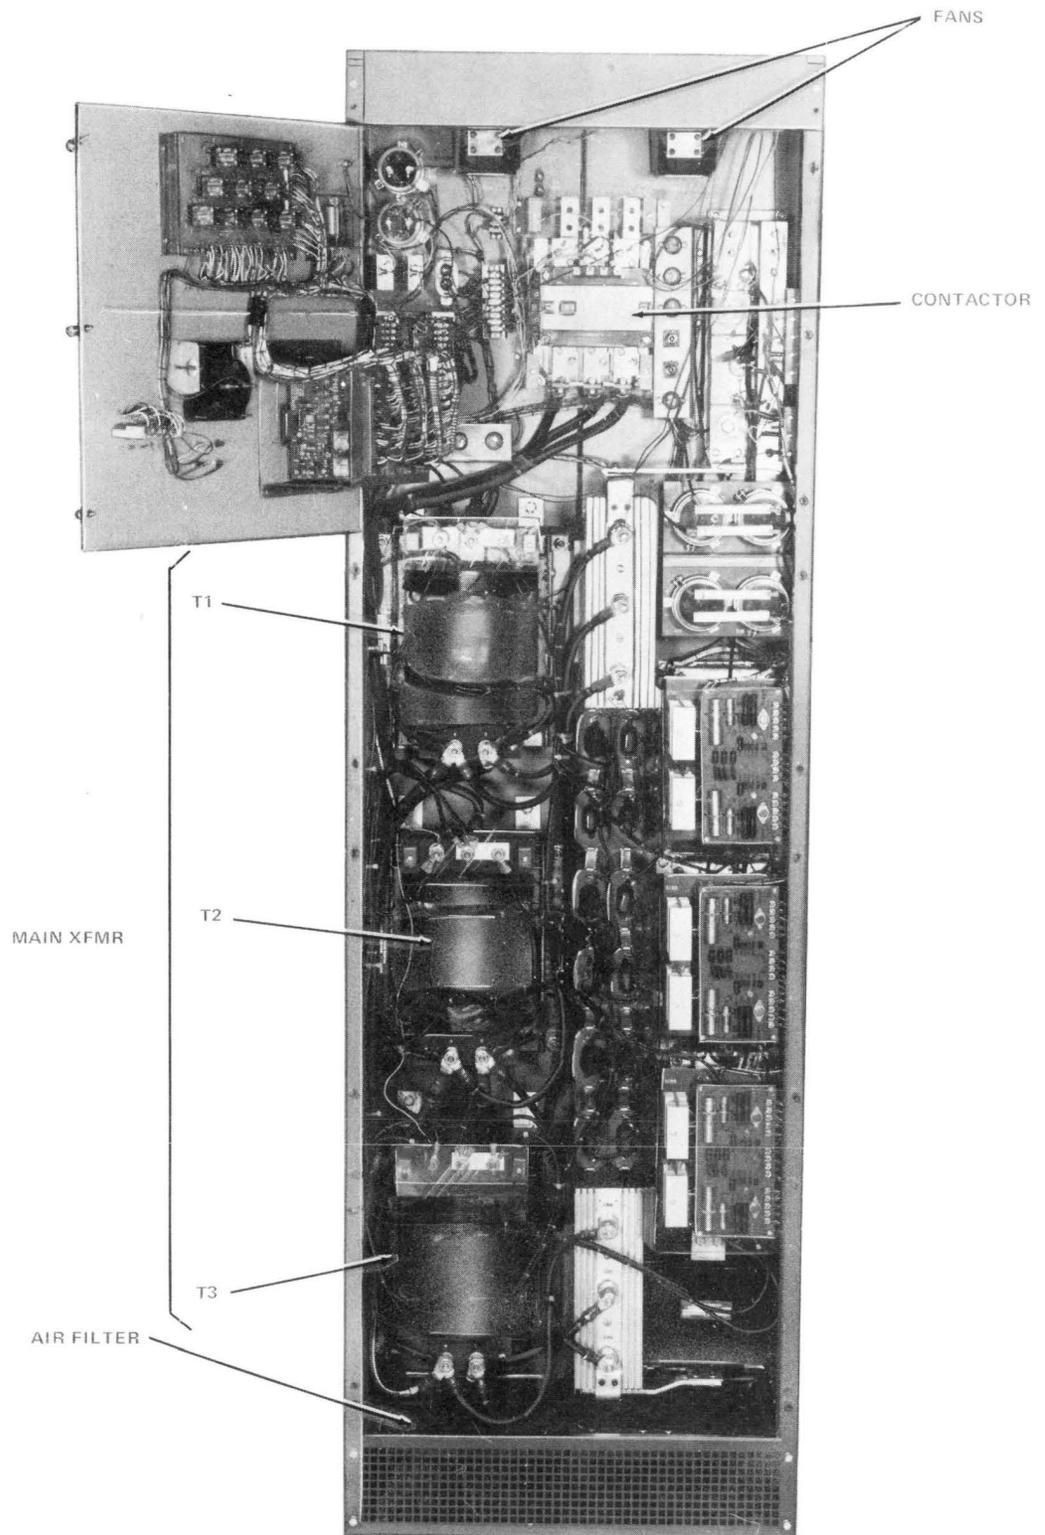
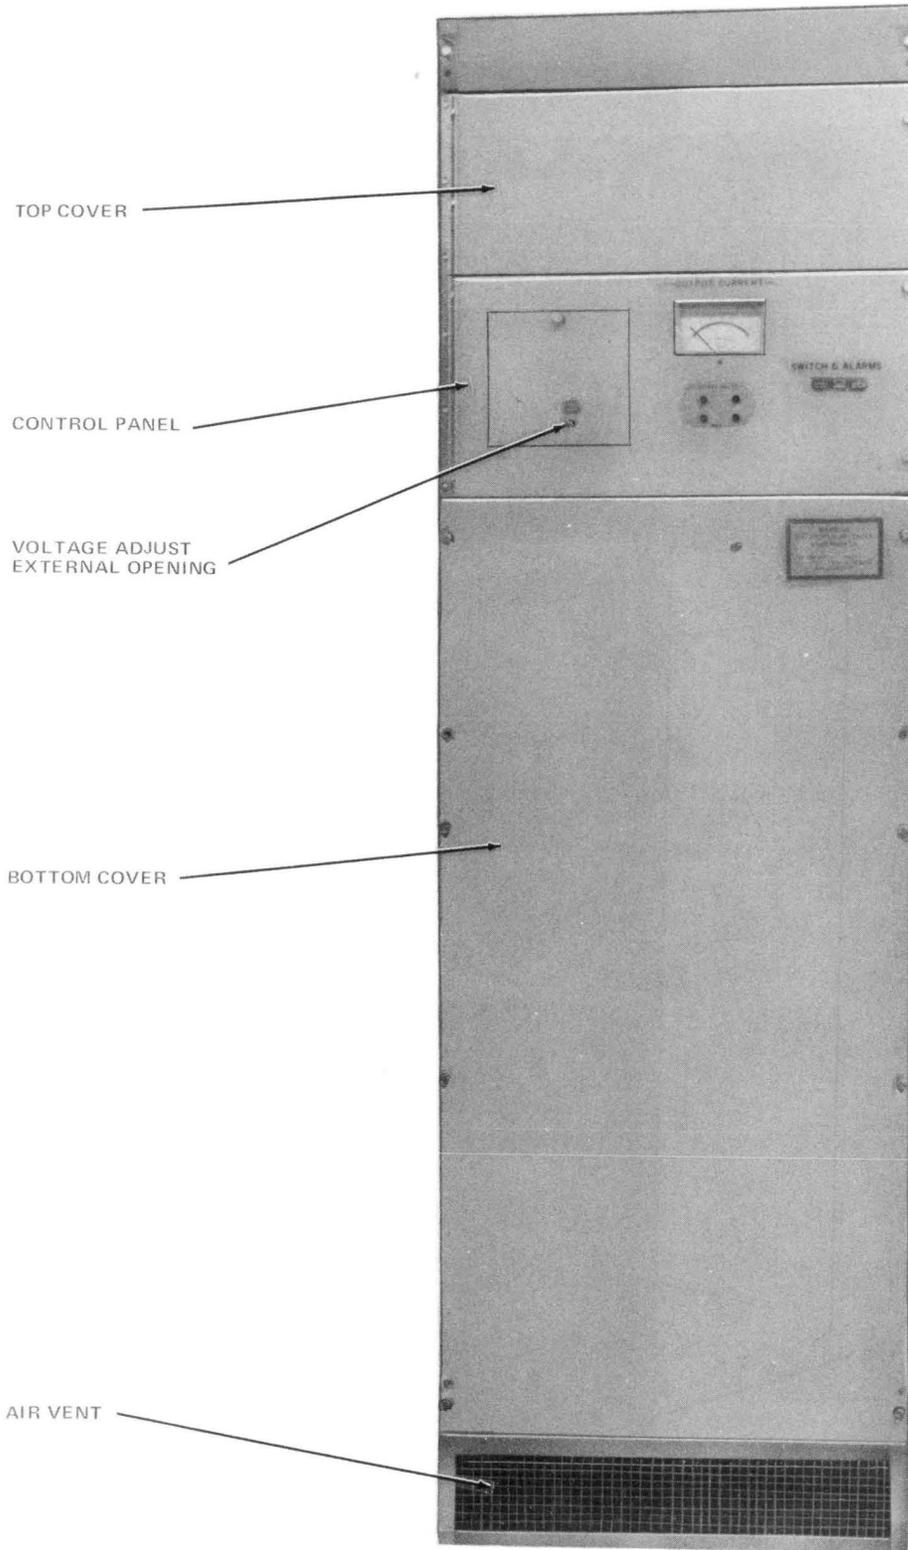

Fig. 1—KS-21113 Rectifier—Front Covers Removed
Fig. 2—KS-21113 Rectifier—Front Cover in Place
1.04 This rectifier is designed to be serviced and maintained from the front of the unit only. All electrical connections can be made and maintenance performed with the front covers removed (see Fig. 1). The rectifier controls, fuses, current meter, and printed circuit cards are mounted on a hinged control panel for access for maintenance, testing, and replacement of parts (Fig. 2).